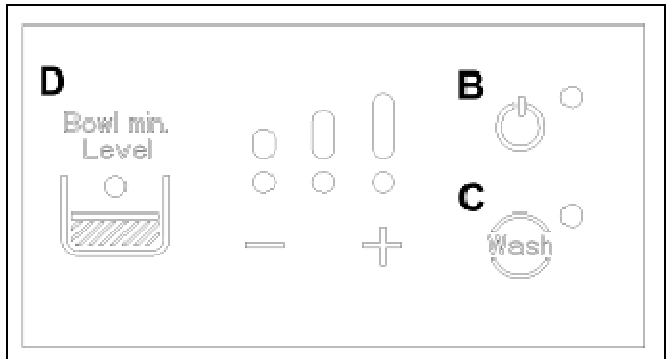

Fig. 34
**- When the product level LED D and the power LED B (fig. 34) are lit with a buzzer sound activated, it means that the product level in the top tank is low and should be refilled; in these conditions the appliance is blocked and only the dispensing system will be activated if necessary until the product level has been restored.**